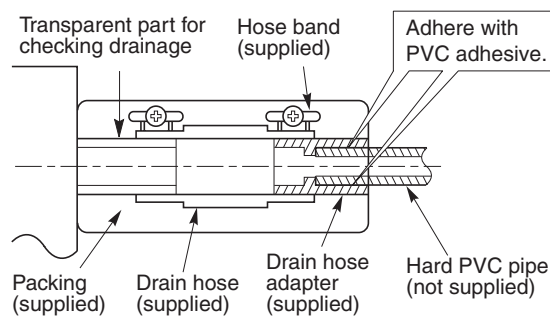

Fig. 1-74
- (1) Prepare standard hard PVC pipe for the drain and use the supplied hose band to prevent water leaks. The PVC pipe must be purchased separately. When doing this, leave a gap between the drain socket of the unit and the PVC pipe to allow the drainage to be checked. The transparent drain pipe allows you to check drainage. (Fig. 1-74)
(Fig. 1-74)